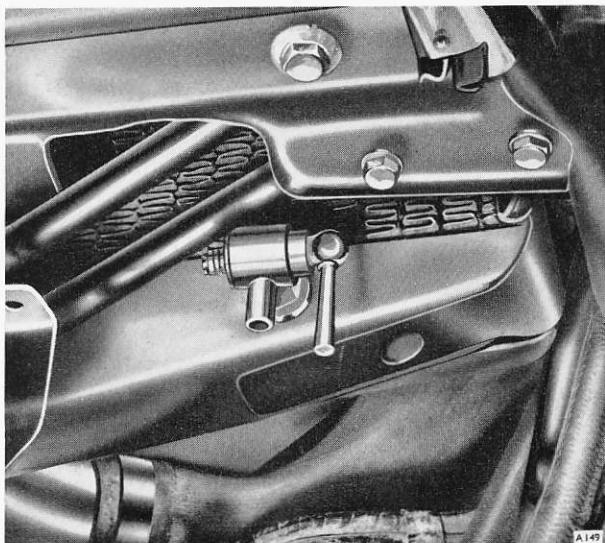

Fig. L3 Radiator drain tap—S2 cars
**On S2 cars** three drain taps are provided, one tap is fitted to the radiator bottom tank and one tap is fitted to each cylinder bank (see Figs. L3 and L4).